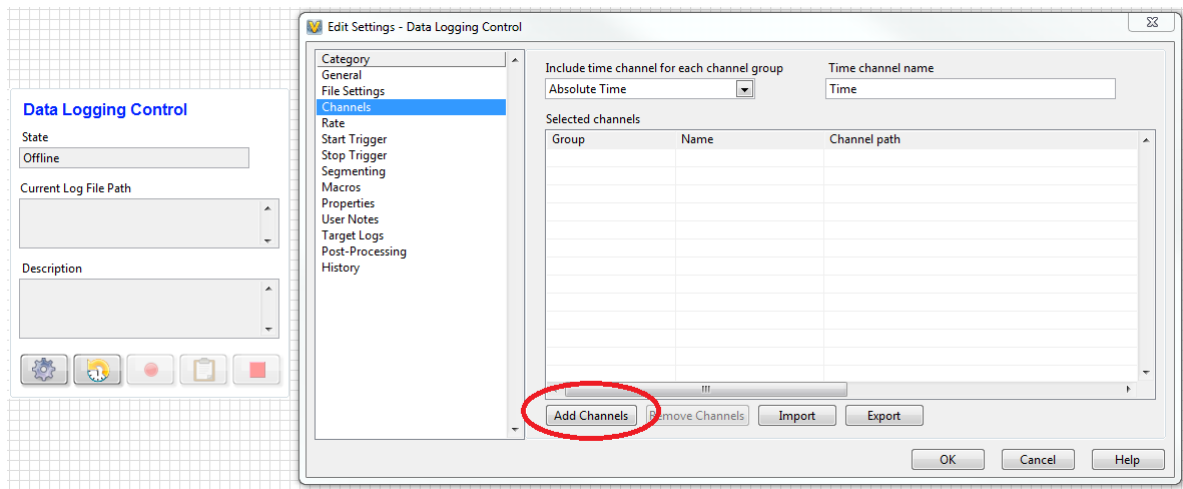

Figure 12: Data logging in Workspace
2. Add a Data Logging Control in your Workspace window, set the desired path for the file and add the channels/parameters of interest. See Figure 12.